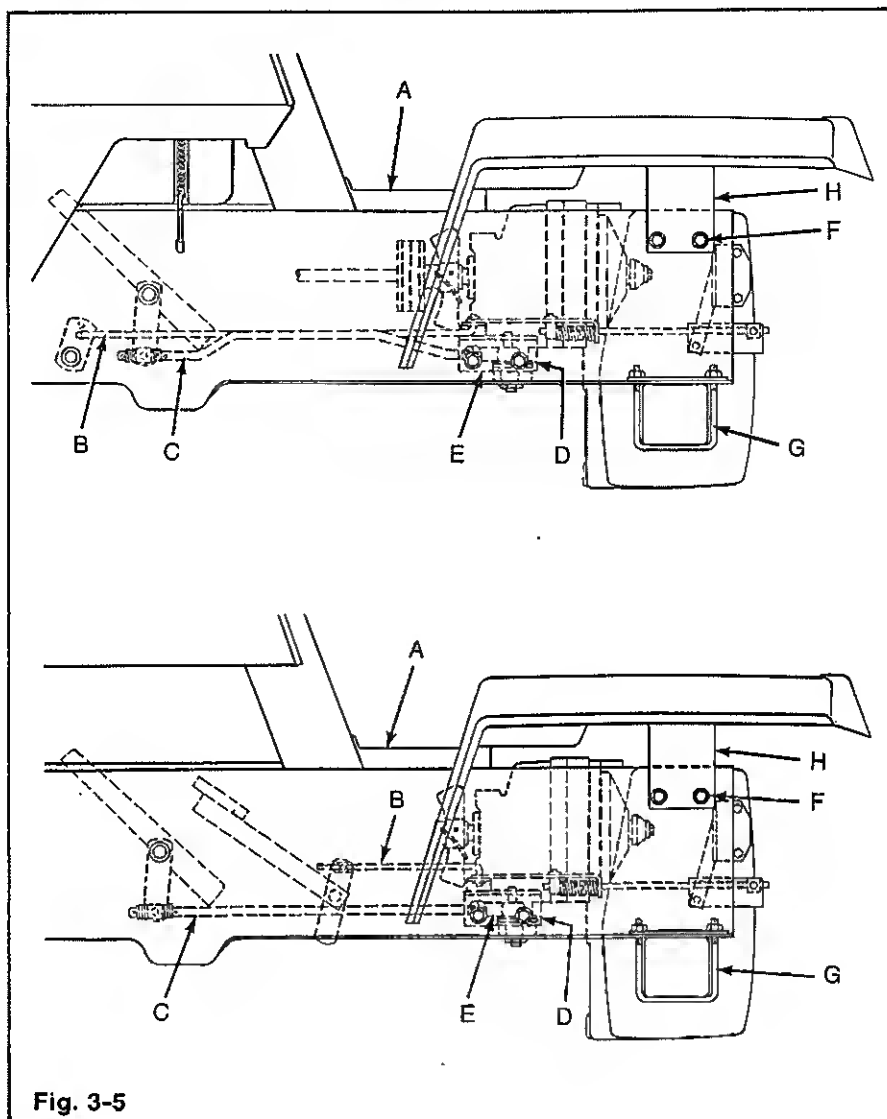

Fig. 3-5
2. Remove tunnel (A) Figure 3-5
5. Remove cotter pin and disassemble pivot block and brake rod (B) from front cross shaft.
6. Remove cotter pin and washer and disassemble pivot block and control rod (C) from the foot pedal shaft.